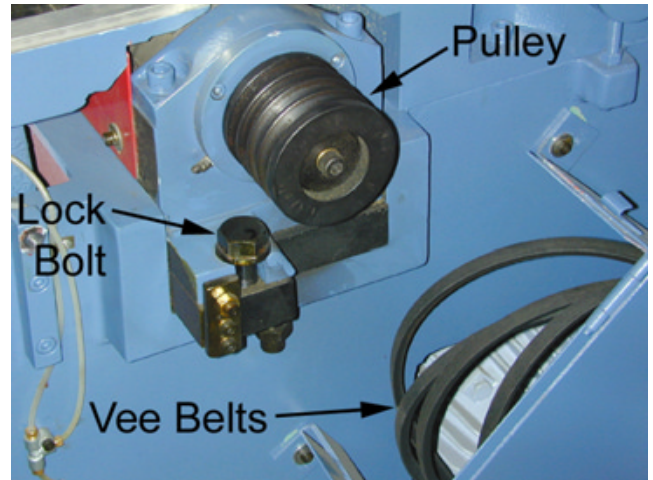

Figure 33
5. Carefully pull the *vee belts* off the *pulley*, as shown in **Figure 33**.
6. Loosen the *lock bolt* shown in **Figure 33**.